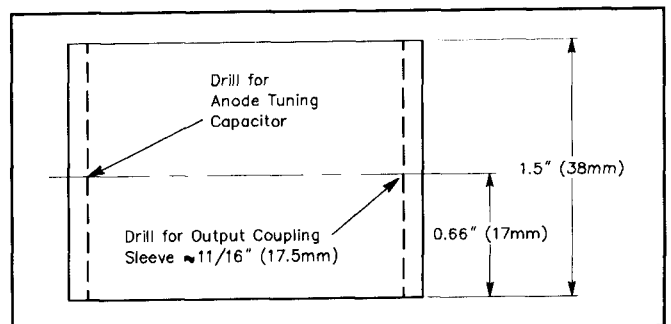

Fig 2—Anode cavity outer conductor.
1. Part No. 1 is the outside wall of the anode cavity. The material is copper or silver-plated brass stock with a 2-in. outside diameter and  $\frac{1}{16}$ -in. wall. The anode cylinder is 1.5 in. high and is drilled 0.67 in. from one end, to accept the output coupling probe (Part 6) and anode tuning capacitor (Part 13). These pieces are on opposite sides of the cavity (Fig 2).